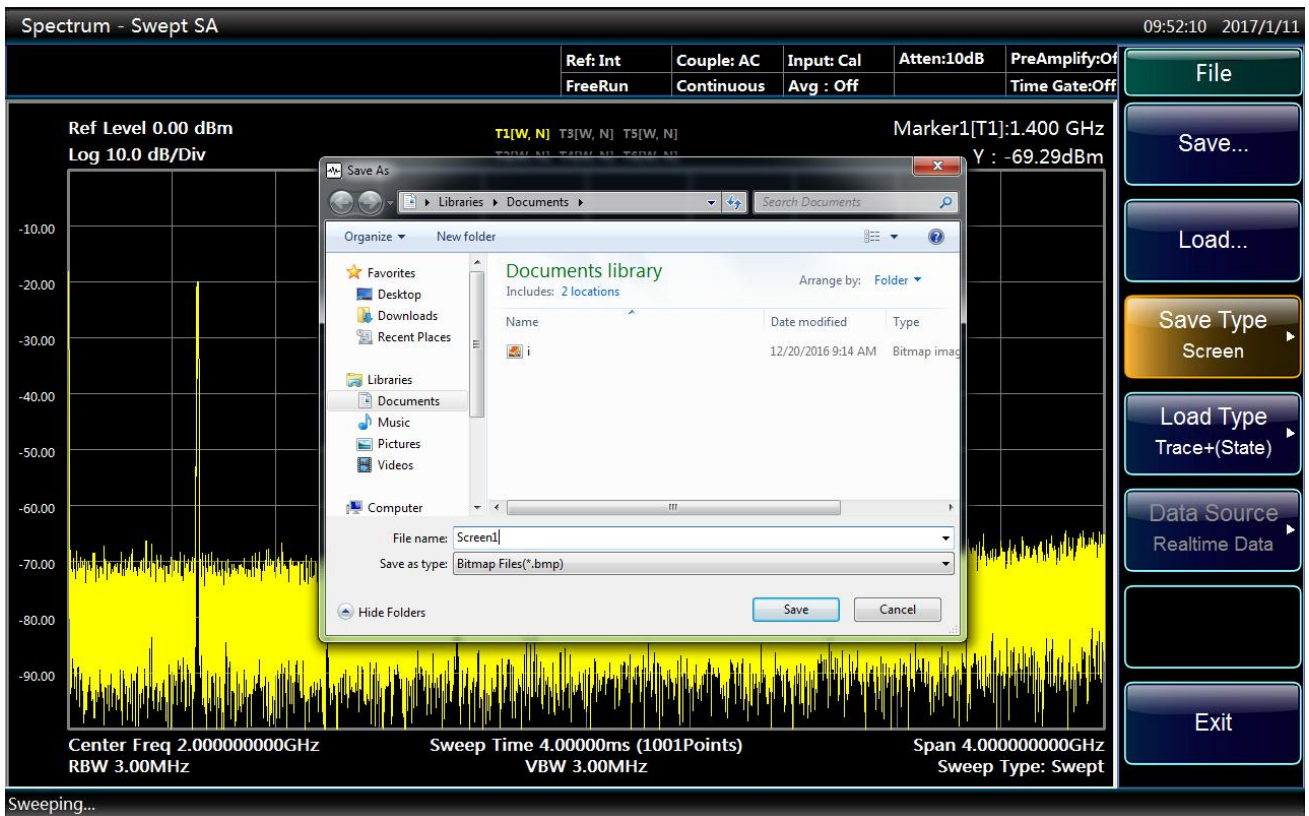

Fig. 3.27 File saving interface
- Press [Save...] Soft menu to pop up File Save As dialog to select the path and file name to be saved and click Save as shown in Fig. 3.27.